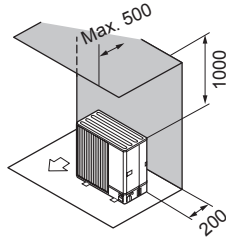

Fig. 4-25
- ② Obstacles at rear and above only (Fig. 4-25)